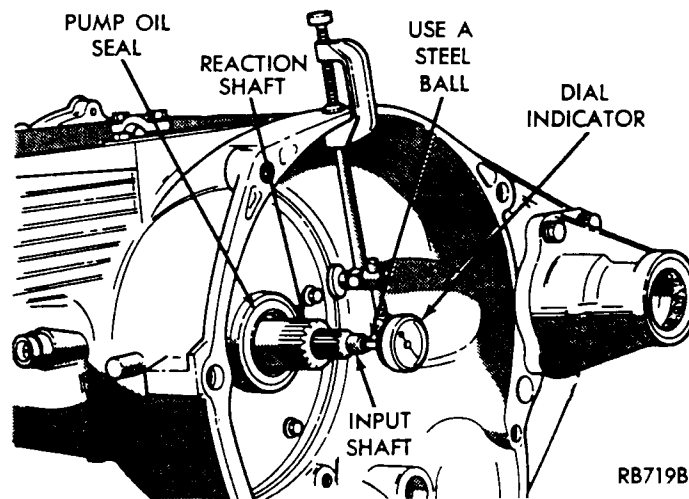

Fig. 3—Measure Input Shaft End Play
(1) Attach a dial indicator to transaxle bell housing with its plunger seated against end of input shaft (Fig. 3).